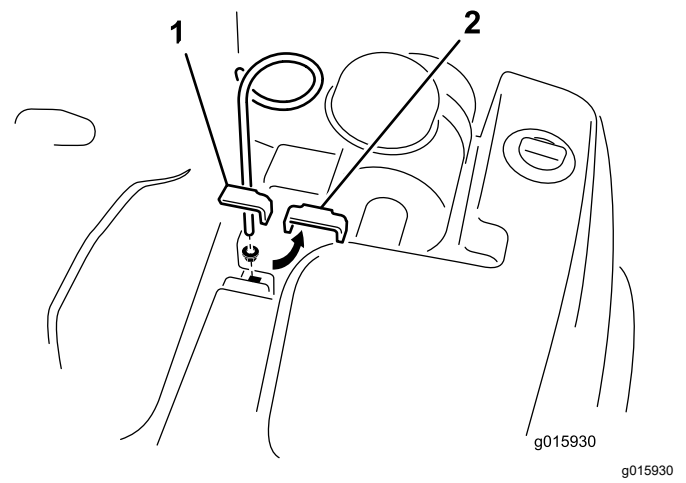

Figure 6
1. Remove the bolt, washer, and nut securing the top hydraulic tank clamp to the frame (Figure 6).
Note: Position the hose guide as shown in Figure 6.